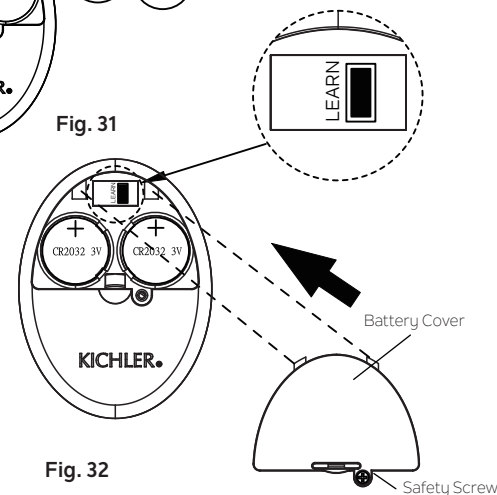

Fig. 32
**Step 2.** Restore power to the ceiling fan branch circuit at the circuit breaker or fuse box. Within 30 seconds of restoring power, press and hold the LEARN button on the back of the transmitter (Fig. 32) for 3 seconds. The light on the fan (if installed) will flash twice and the fan will turn on at a low speed. This confirms that the pairing process is complete. The transmitter will now be paired to your fan and ready for use.